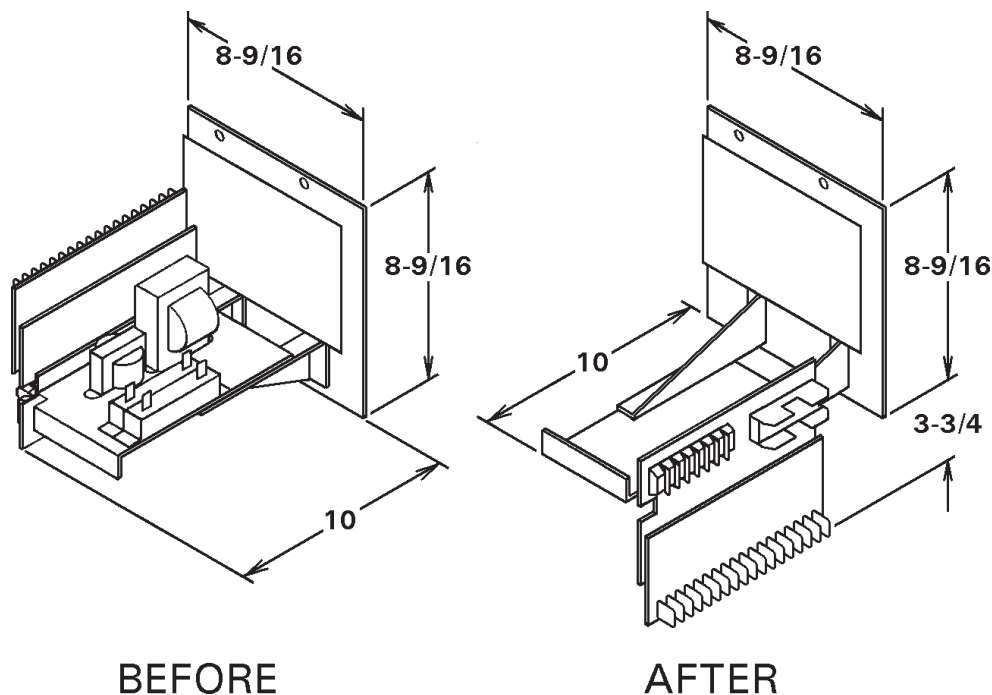

Figure H-1. *IMU rotation option*
The Integrated Modular Unit (IMU) series of Weld Controls are designed for use in retrofit situations or in new/custom designs. Customers are free to place one or more of these units in existing enclosures or new designs as requirements demand. **To make the IMU even more flexible, the rear chassis can be rotated 180°.** If the IMU as supplied cannot be oriented so that the Terminal Strip/Firing PCB, Voltage Programming Terminal Strip and fuse holder can be accessed directly, the chassis can be inverted (turned upside down) to provide access as shown in Figure H-1. Before installing the IMU in an enclosure, determine whether or not the chassis needs to be flipped. If rotation of the chassis is required, follow the instructions below.
3. Rotate the IMU chassis 180° on its long axis and remount the brackets to the studs on the Dial Plate (see Figure H-1).